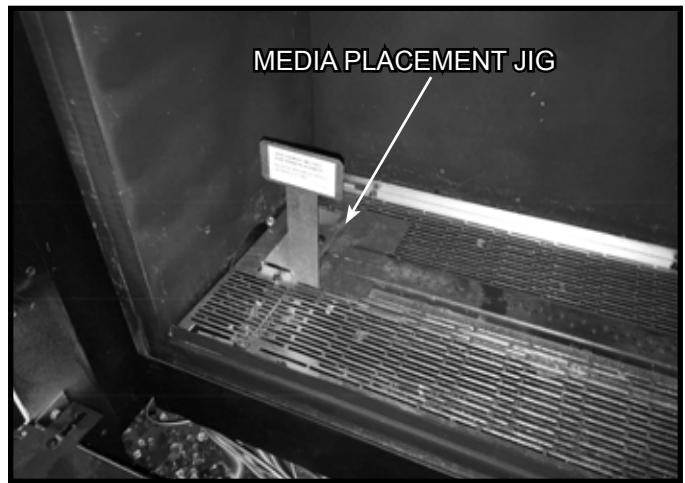

Figure 1. Media Placement Jig Location
2. The media placement jig, shown in Figure 1, MUST be used any time media are placed on the burner to ensure that there is no media in the burner lighting area. Verify that the media placement jig is correctly installed in place in the appliance. See Figure 1.